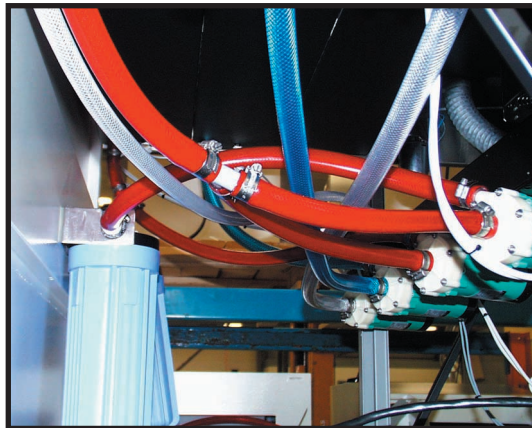

Fig. 10.
9) Fig. 10. Shows the complete installation of double DEV, filter kit in the p